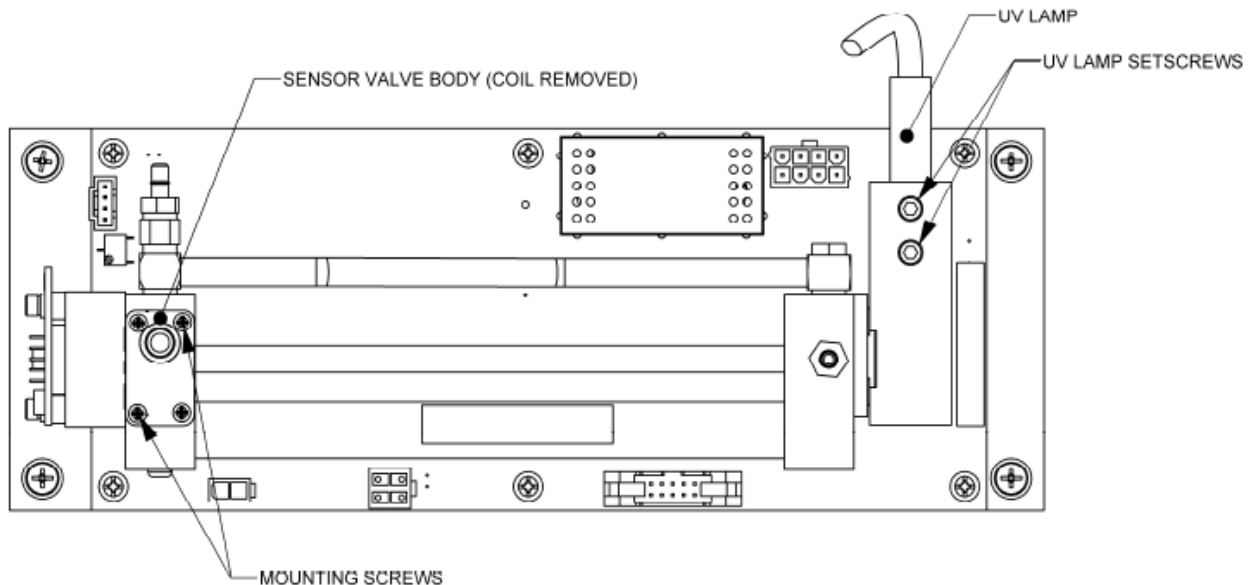

Figure 9-3: Sensor Detail
7. Remove the two (2) mounting screws using a #2 Phillips screwdriver. See Figure 9-3. Note that there are four screw heads visible on the top of the valve body, only two (2) of these should be removed.
10. Install the new valve by reversing steps 1-7. Note the proper orientation of the new valve as shown in Figure 9-3.